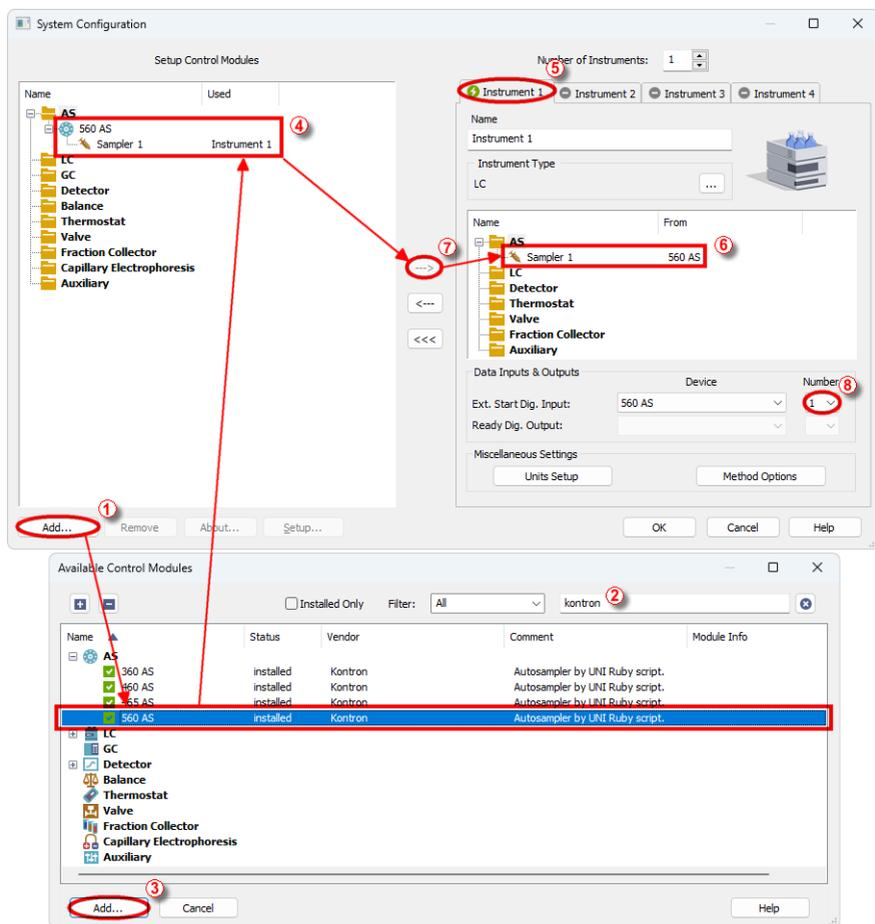

Fig. 3: How to Add Kontron 360/560 module
- Press the *Add* button (① on Fig. 3 on pg. 4.) to invoke the *Available Control Modules* dialog.
- You can specify the search filter (②) to simplify the finding of the driver.
- Select the correct item and press the *Add* (③ on Fig. 3 on pg. 4.) button. Each device with already created UNI profile should have its own item named accordingly in the *Available Control Modules* dialog.